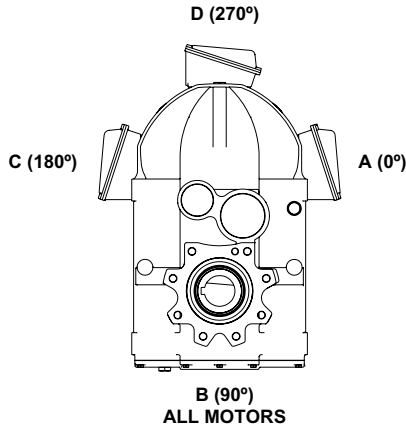

Figure 2
9. Determine appropriate position that motor conduit box must be in once motor is assembled to basic housing. Refer to Figure 2, Page 3. Slide motor shaft into high speed motor adapter, aligning key of shaft with keyway in motor adapter bore.